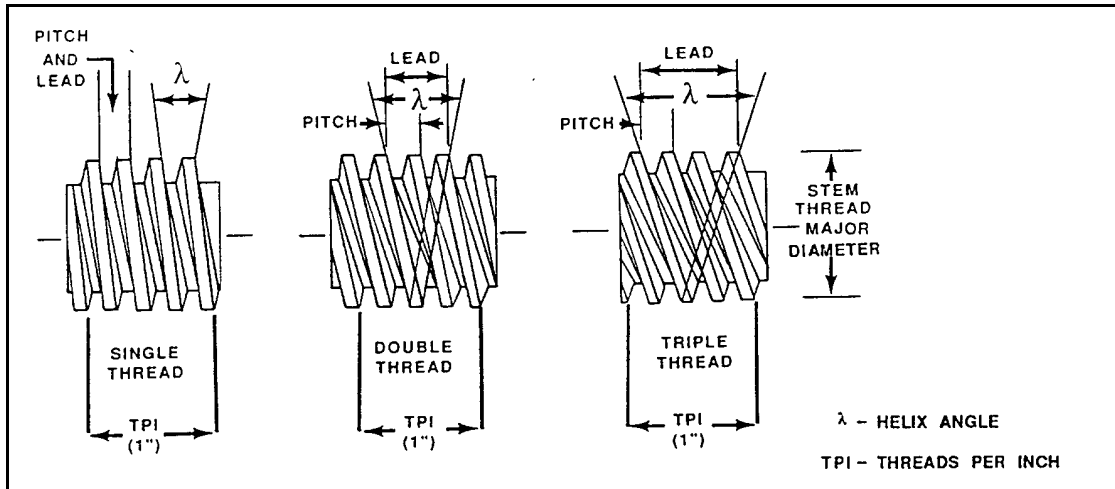

Figure 4-12 Valve Stem Thread Determination
2. If required, verify the valve stem thread, pitch, lead, and diameter. (Figure 4-12)